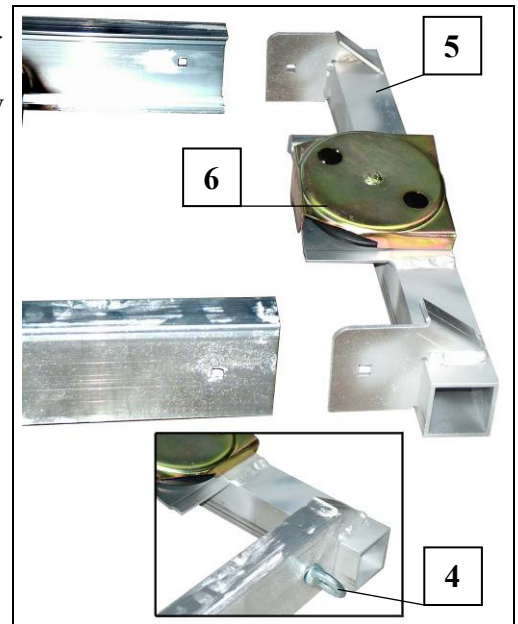

Fig. 20 Assemble head piece
- Position and screw in head section (5) at the end of the ladder part. - Rope sheave points up (see Fig. 20)